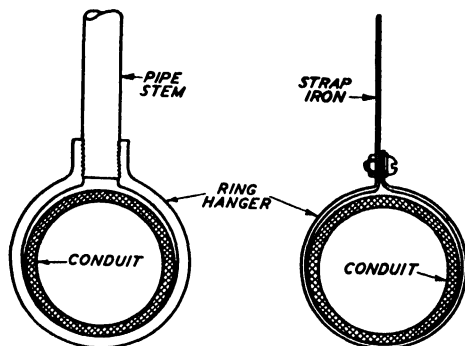
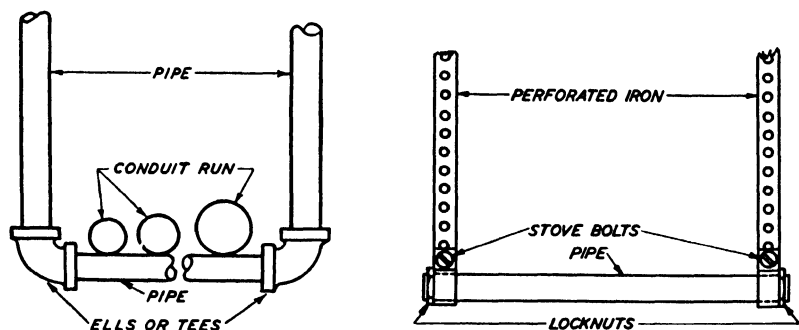
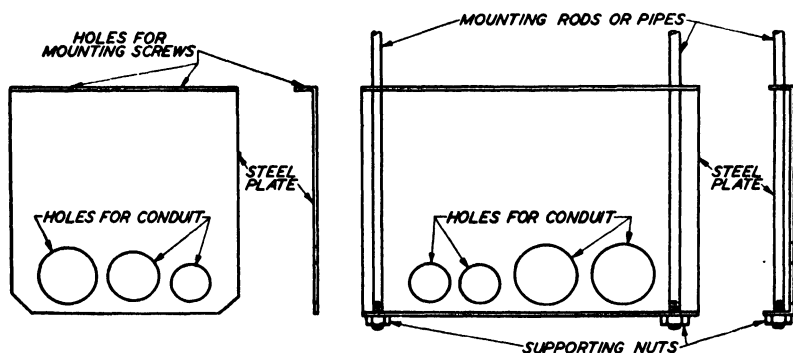

Fig. 39. A Single Ring Conduit Hanger
Fig. 40. A Trapeze Conduit Hanger
Fig. 41. A Plate Hanger for Supporting Several Conduits
**Pipe Hangers.** Where the surface to be run over is broken up by projections, where piping or other obstructions are in the way or the ceiling is unduly high, it is customary to suspend the conduit by means of a single ring hanger, Fig. 39, if there is only one conduit in the run or by a trapeze-hanger, Fig. 40, or a plate-hanger, Fig. 41, if there are two or more conduits. The hanger is made to extend from the point of structural support down to the height at which the conduits are to be run.
Fig. 39 shows two single hangers, one an iron ring with a threaded pipe stem at left and the one at the right is made from a piece of perforated strap iron. Fig. 40 shows two trapeze hangers; the one at the left is made from sections of pipe and ells; the one at the right is made from a section of pipe and two pieces of perforated strap
iron. Fig. 41 shows two plate hangers, one for ordinary, the other for heavy construction. These plate hangers are made from steel of suitable size and thickness, and are provided with holes for the passage of the conduits. Do not have the holes fit the conduits too snugly; give the latter from  $\frac{1}{16}$  inch to  $\frac{1}{8}$  inch clearance. These hangers are secured to the ceiling in the same manner as described under pipe straps.